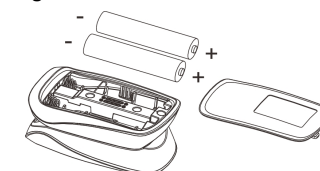

Figure 3. Batteries Installation
- Refer to Figure 3. and insert the two AAA size batteries properly in the right direction.